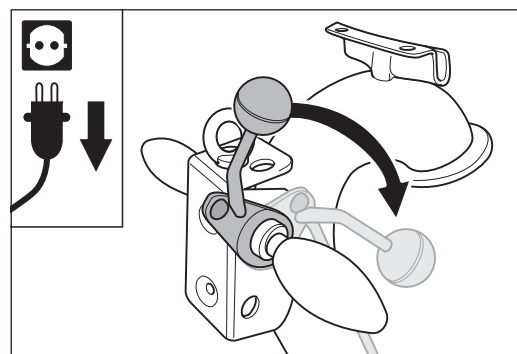

Fig. 54 Press the lowering lever at the handle downwards to lower the sanding drum onto the floor.
- 10 Press the lowering lever at the handle downwards (fig. 54) to lower the sanding drum onto the floor.